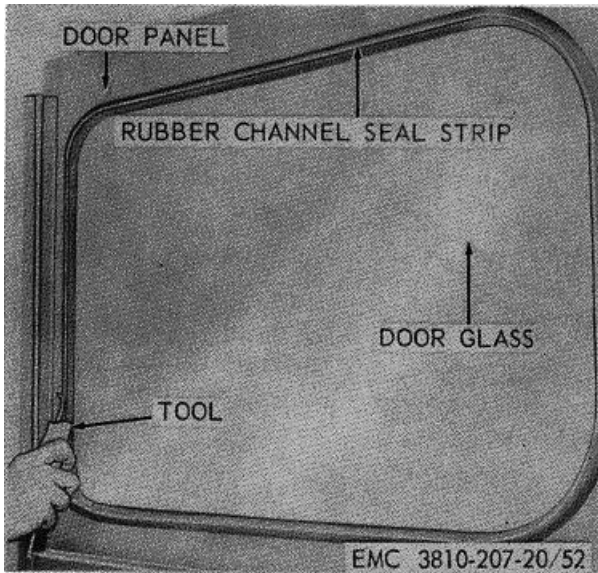

Figure 52. Door window and windshield glass, replacement.
- (1) Insert the hook end of the rubber channel tool (fig. 52) in the rubber channel seal strip at the seam and slide tool around the channel to break the seal.
- (2) After seal has been broken, insert the straight end of the rubber channel tool between the rubber channel and the glass and move it slowly around the rubber channel to break the seal.
- (3) Press glass gently while breaking the seal and glass will slide out of the panel as soon as the seal is completely broken.
- (4) To remove front window, repeat (1) through (3) above.
- (1) Start the rubber channel (fig. 52) along the side of the window opening.
- (2) Fit the narrow edge of the rubber channel over the edge of the door panel and continue the strip around the window opening and back to the starting point with a 1/4-inch overlap.